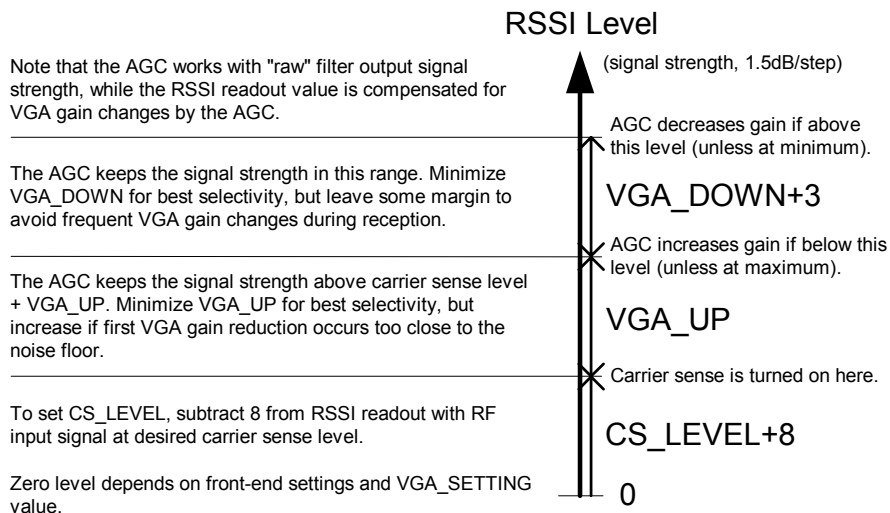

Figure 18. Relationship between RSSI, carrier sense level, and AGC settings CS\_LEVEL, VGA\_UP and VGA\_DOWN
A digital RSSI is used to measure the signal strength after the ADC. The `CS_LEVEL[4:0]` in the `VGA4` register is used to set the nominal operating point of the gain control (and also the carrier sense level). Further explanation can be found in Figure 18.
5. If desired, adjust the VGA\_UP and VGA\_DOWN settings according to the explanation in Figure 18.
*CS\_LEVEL[4:0]* must be changed accordingly to maintain the same absolute carrier sense threshold. See Figure 18 for an explanation of the relationship between RSSI, AGC and carrier sense settings.